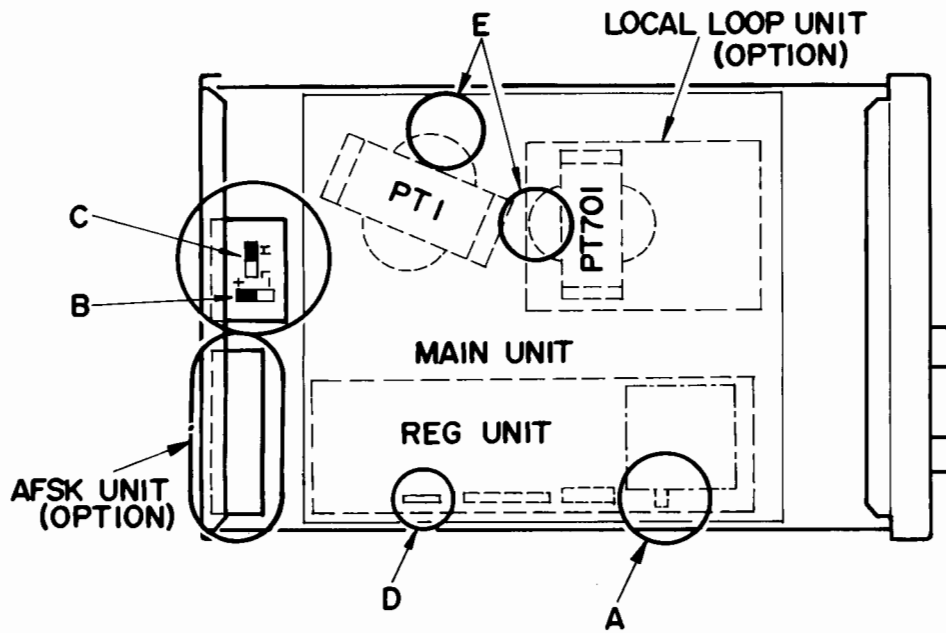
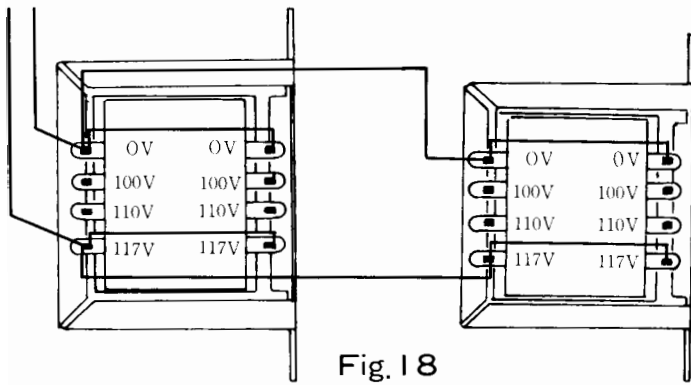

Fig. 13
Fig. 18
Locate switch B in Figure 13. Set this switch to - for negative keying. When returning to a transceiver using positive keying, this switch must be returned to +.
- (1) Remove the case of the YR-901. Remove the Molex plugs from the sockets on the MAIN UNIT, and note their position carefully. Remove the mounting screws for the MAIN UNIT, and remove this unit from the case.
- (2) Install the LOCAL LOOP UNIT in the position shown in Figure 13, being certain to position it correctly (the power transformer of the LOCAL LOOP UNIT should be adjacent to the main power transformer). Now connect the two parallel wires shown in Figure 18 between the LOCAL LOOP power transformer and the main power transformer. Check to make sure that the primary winding on the LOCAL LOOP transformer is the same as that on the main transformer.
- (4) Locate the 5-pin connector from the LOCAL LOOP UNIT. Connect this to J₂₀₄, marked D in Figures 13 and 14.
- (5) Carefully re-install the MAIN UNIT, being especially careful not to bend the leads of the various connectors. Close up the case.